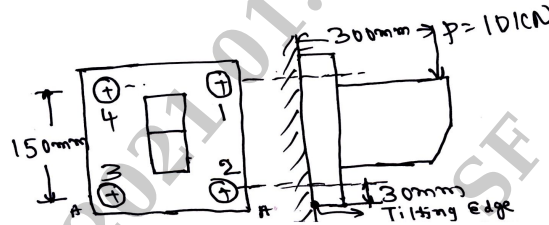

Fig.Q9(a)
- 9 a. A bracket is fixed to the wall by means of four bolts and loaded as shown in Fig.Q9(a). Calculate the size of the bolt if the load is 10 kN and allowable shear stress in the bolt material is 40 MPa.